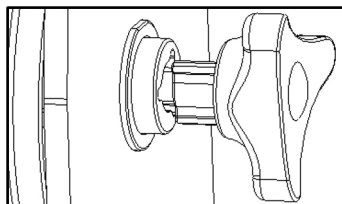

Fig. 4
2. Inspect the winch, steel cable (D) and terminal tackle before each use. Replace any damaged or frayed components before use.
4. Pull the clutch knob (E) out, twist a quarter turn and release to disengage the brake. The knob will rest above the drum (Fig. 4).
5. Pull out the cable by the hook strap (J) until you have the desired length out.